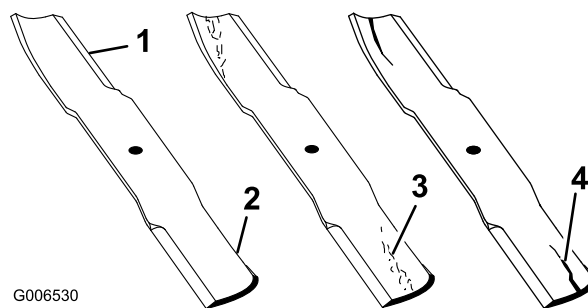

Figure 51
1. Inspect the cutting edges (Figure 51). If the edges are not sharp or have nicks, remove and sharpen the blades; refer to Sharpening the Blades.
2. Inspect the blades, especially the curved area (Figure 51). If you notice any damage, wear, or a slot forming in this area (item 3 in Figure 51), immediately install a new blade.